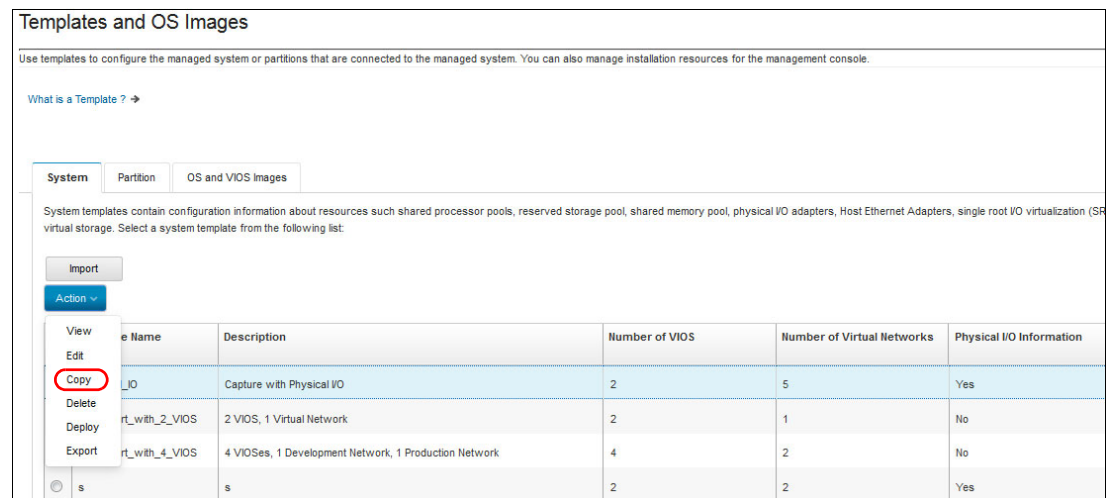

Figure 2-29 System template: Copy
1. From the Templates and OS Images window, select the system template to be copied, right-click the template, and select **Copy**, as shown in Figure 2-29.